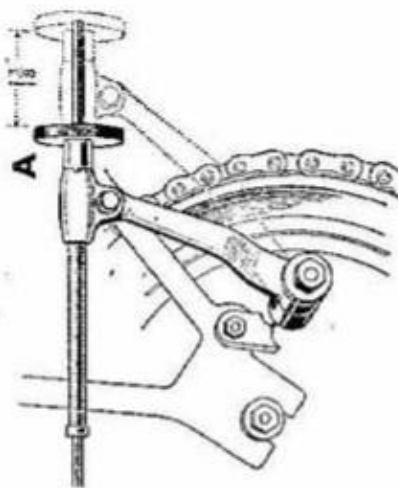
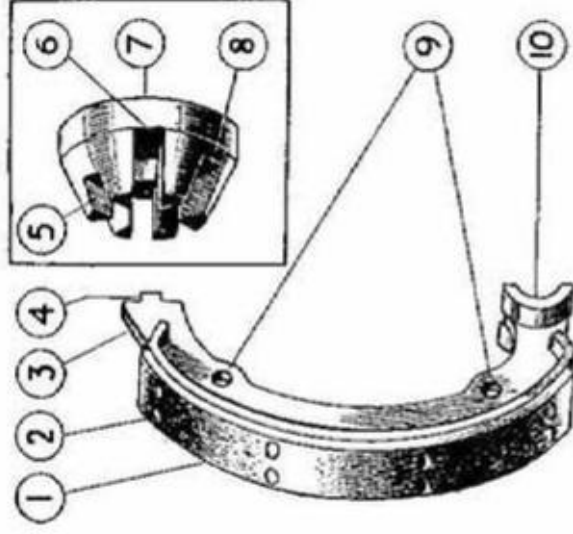

FIG. 15. HAND ADJUSTMENT OF REAR BRAKE (SHOWN EXHAUSTED)
FIG. 17. SHOWING 1945-7 BRAKE SHOE WITH THRUST COLLAR ADJUSTMENT
In order to make a minor rear brake adjustment, jack the Matchless up on its rear stand. Then to eliminate "lost motion," screw the knurled adjuster shown at (A) in Fig. 15 farther on to the brake rod until slight friction is felt between the brake linings and the brake drum when the rear wheel is spun with the gear-change lever in "neutral." Having obtained contact between the linings and drum, *unscrew* the adjuster nut (A) *two complete turns*.
Where it is not possible to adjust the rear brake by means of the hand adjustment, owing to the condition shown in Fig. 15,
Brake Shoe Adjustment (1945-7 Models). To rectify loss of braking efficiency which cannot be rectified by means of the hand adjustment shown in Figs. 15, 16, it is necessary to effect a major adjustment of the thrust collar fitted to the tongue of each brake shoe. The adjustment is the same for the front and rear brakes, and details of the adjustable thrust collar are shown in Fig. 17. As may be seen, each thrust collar (7) has machined slots (5), (6), (8), of different depth.
Having effected a major brake adjustment (to offset loss of leverage or because further hand adjustment is impossible), slacken off the hand adjuster shown at (A) in Figs. 15 and 16, and proceed to adjust the front or rear brake (or both brakes) by means of the hand adjustment as described on page 21.
Having effected a major brake adjustment, slacken off the adjuster shown at (A) in Figs. 15 and 16, and then adjust the front and/or rear brake in the normal manner with the hand adjustment (see page 21).